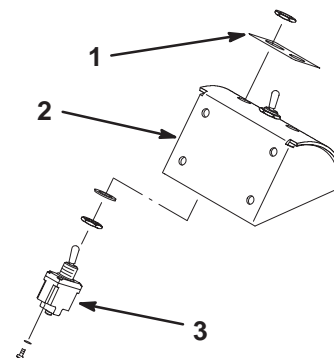

Figure 2
7. Affix the work light switch decal around 2 of the mounting holes in the switch bracket (Fig. 2).
8. Mount each work light switch in the hole of the switch bracket with a washer and 2 hex nuts (Fig. 2). Position the washer between the top nut and switch bracket.
9. Remove the protective coverings from the terminals of the brown/white and red wires from the wiring harness. Secure the terminals to the front work light switch with 2 screws and washers (Fig. 2).
10. Remove the protective coverings from the terminals of the blue and red wires from the wiring harness. Secure the terminals to the rear work light switch with 2 screws and washers (Fig. 2).